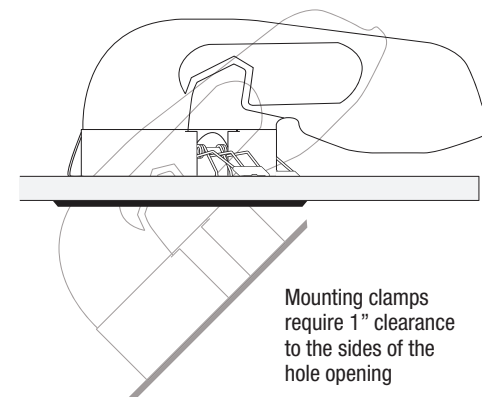

Figure 5. Inserting the loudspeaker into the opening hole.
9. Once the speaker wires and safety wire are connected, raise the mounting clips to a vertical position as shown in Figure 5 and carefully slide the loudspeaker with attached Rear Wave Control enclosure into the opening hole (**Figure 5**). CM4PR loudspeakers feature spring loaded mounting clamps that allow the speaker to remain flush with the ceiling. To remove a CM4PR from the ceiling, simply grasp the bezel edge and pull on the speaker slowly. This will cause the mounting clamps to disengage and free the loudspeaker.